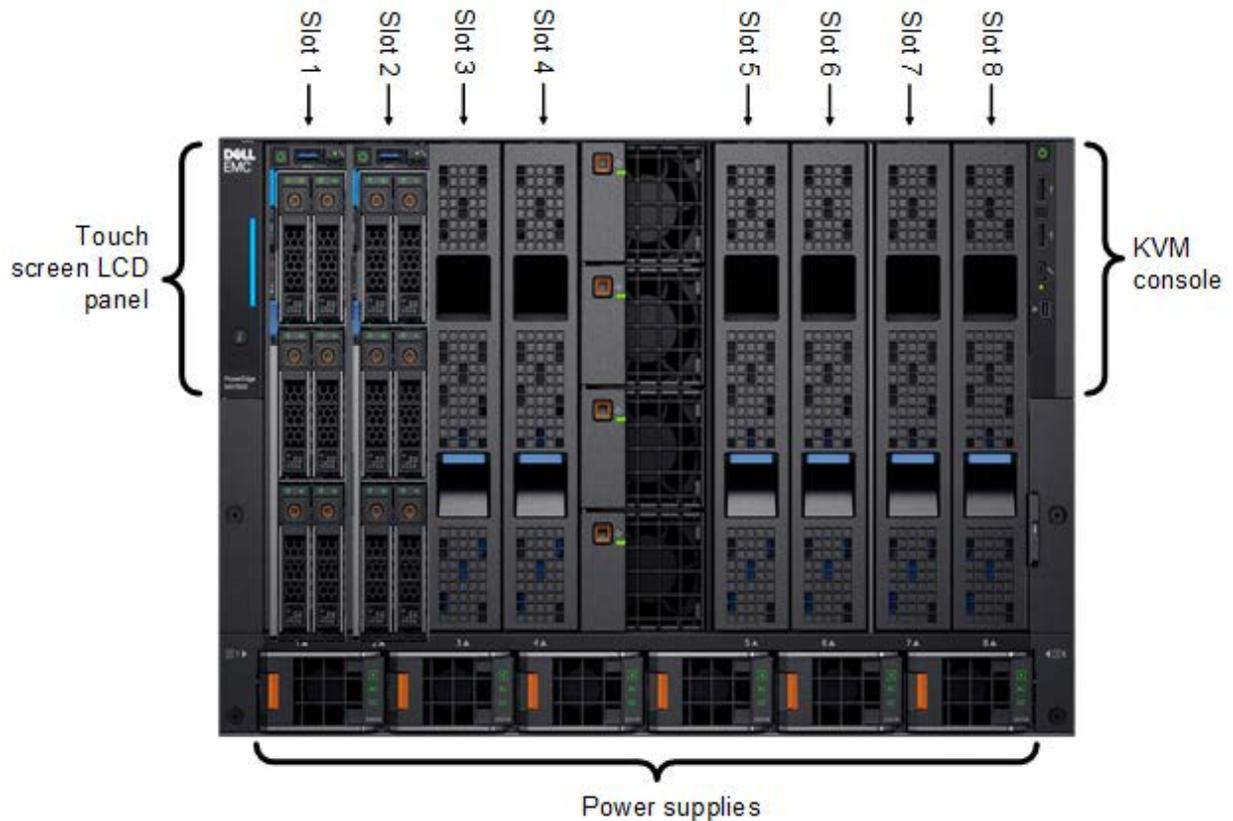
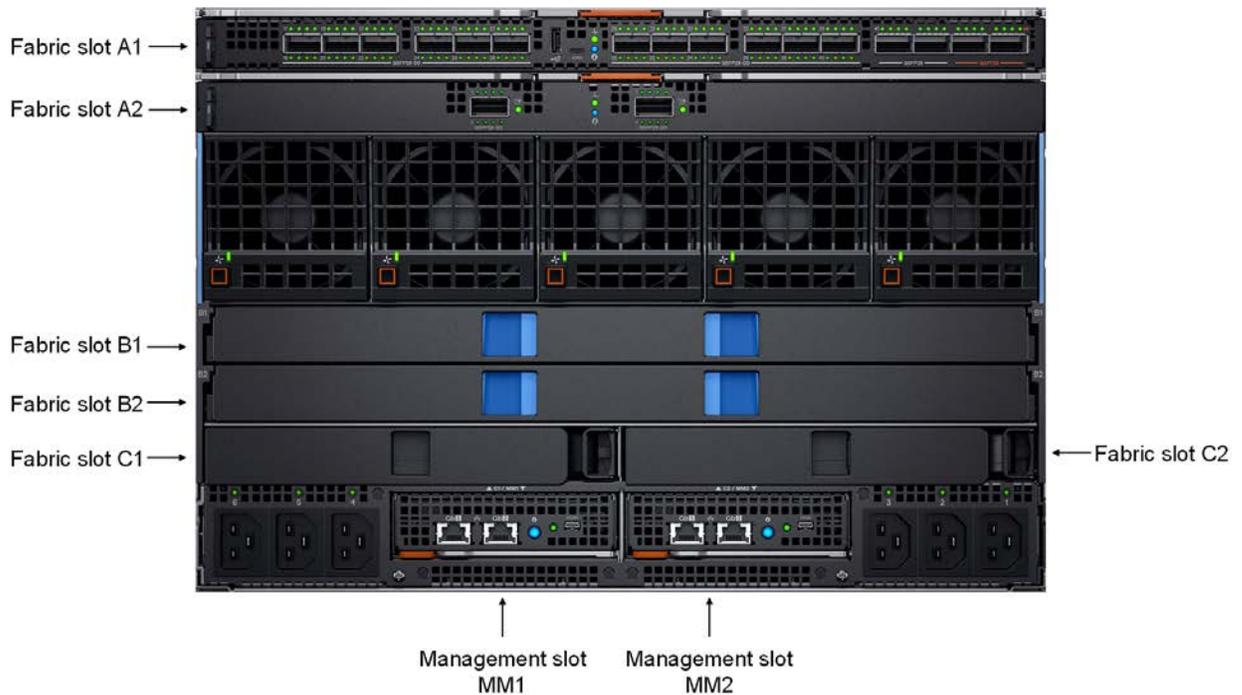

Figure 2 Dell EMC PowerEdge MX7000—front
Figure 3 Dell EMC PowerEdge MX7000-back
The PowerEdge MX7000 chassis has one of three control panel options for administration, up to six hot-pluggable, redundant, 3000-watt power supplies and up to eight compute and storage sleds. Figure 2 shows the front of the chassis and the following installed components:
Figure 3 shows the back of the PowerEdge MX7000 chassis configured with the following:
**Note:** Two PowerEdge MX7000 chassis with the hardware shown in Figure 2 and Figure 3 are used in this guide. Compute sled models and quantities vary in the examples.